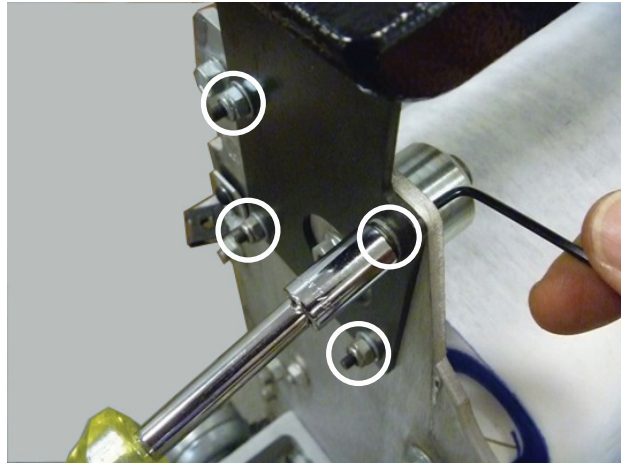

Figure 11
11. Reattach the four bolts to the front bumper side plate. Refer to *Figure 11*.